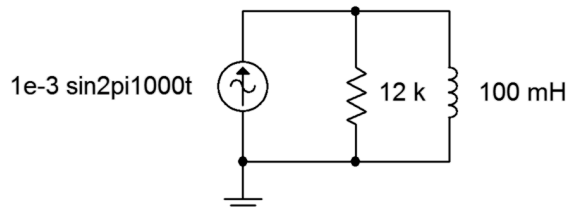

Figure 3.13
19. Determine the resistor and inductor voltages for the circuit shown in Figure 3.13.
20. Determine the component currents for the circuit shown in Figure 3.13. Draw phasor diagram of the source and branch currents.